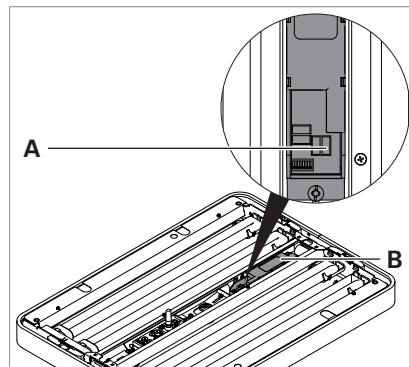

Fig. 4: Interface for dimmable luminaires and luminaires with HFMD sensor
- ▶ For luminaires with **HFMD sensor**: Connect the other end of the connecting line to the interface **A** "PULSE/EIB" at the luminaire control **B** in the luminaire head, see Fig. 4.
- ▶ For **dimmable** luminaires: Connect the other end of the connecting line to the interface **A** "R/Tx" at the luminaire control **B** in the luminaire head, see Fig. 4.